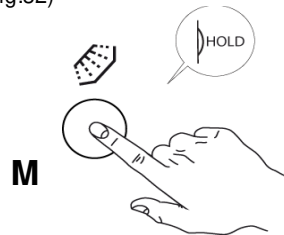

Fig.32
- 1- Hold button "M" manual cold rinse cycle for time necessary to cool down dishes. (Fig.32)